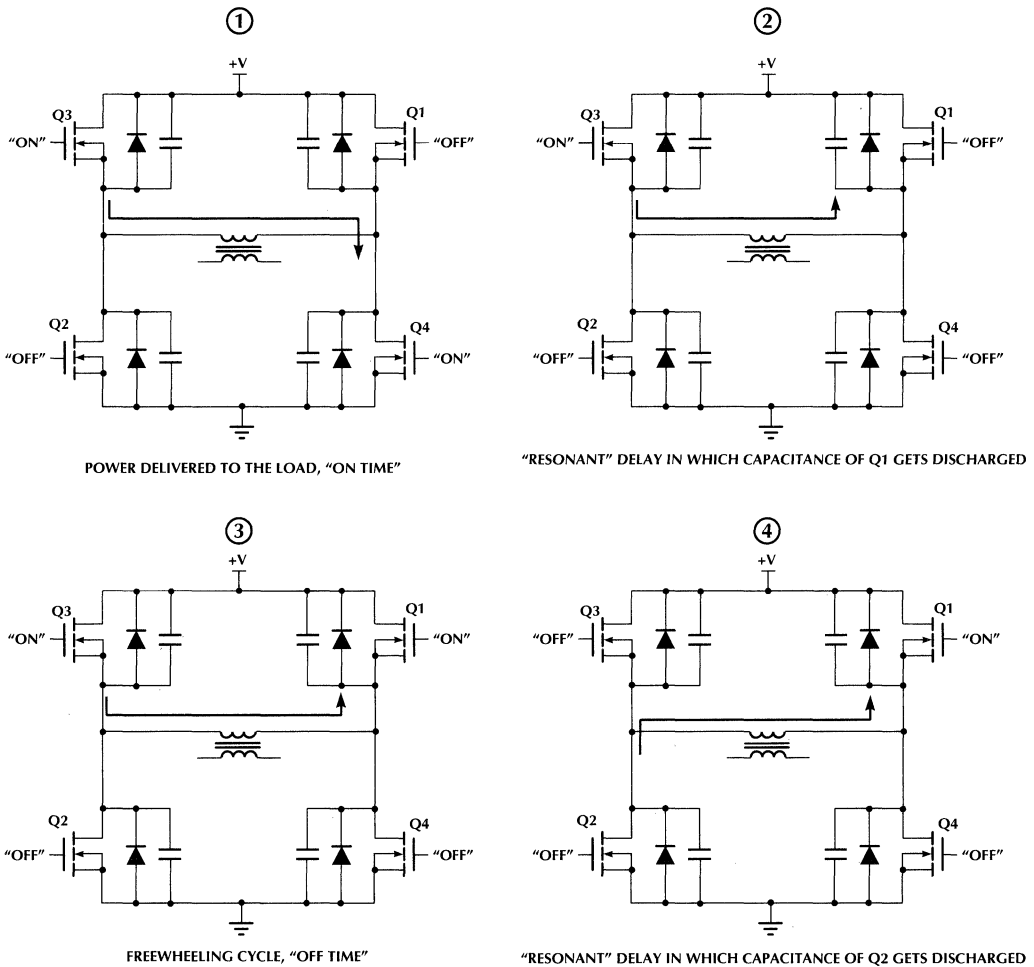

Figure 5a. PMPT power circuit cycles.
The operation of the PMPT is best understood by examining one full cycle of events in the power circuit. For the time being one can assume that the power transformer magnetizing and leakage inductances will behave as current sources. Figures 5a and 5b show the power stage of the PMPT through one complete cycle.
This is not the worst case. The worst case happens after the above there is a period of freewheeling of the current before the next device turns ON with ZVS. This corresponds to phases (3) and (4) in Figure 5a. During this period the output diodes effectively short the transformer and the only inductance in the circuit is the leakage inductance and carries a current slightly less than at the end of the power transfer cycle. Therefore all the calculations are based on this case.